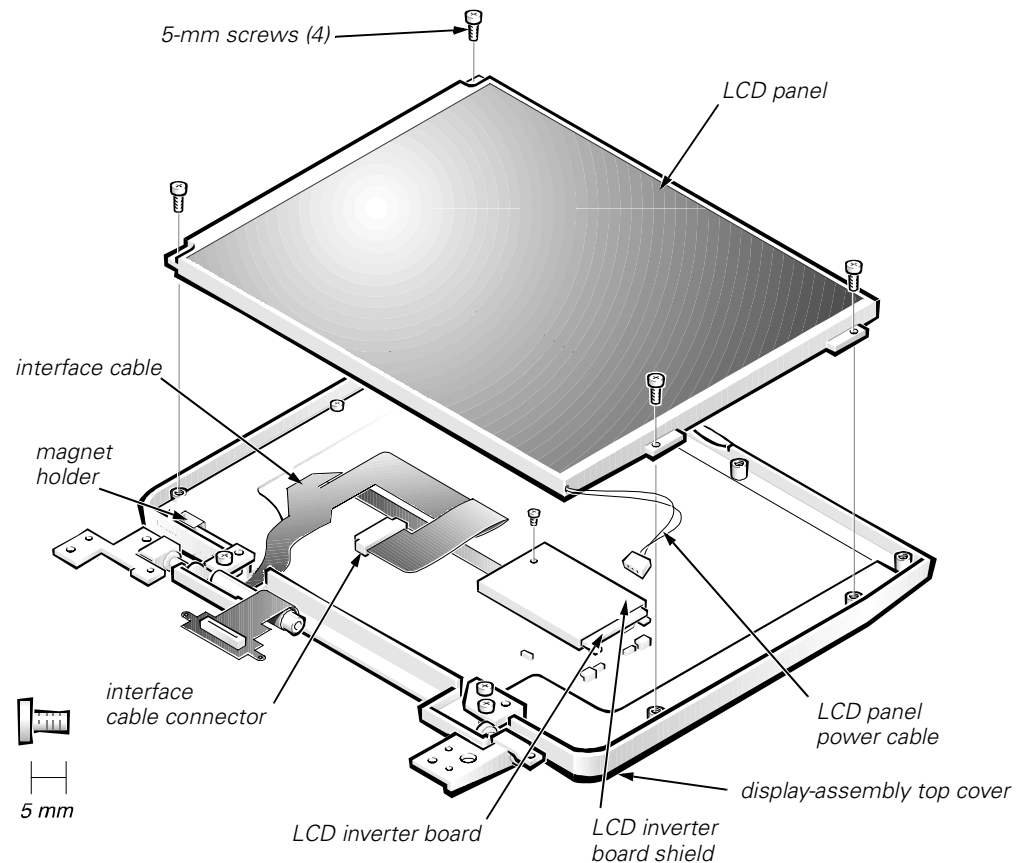
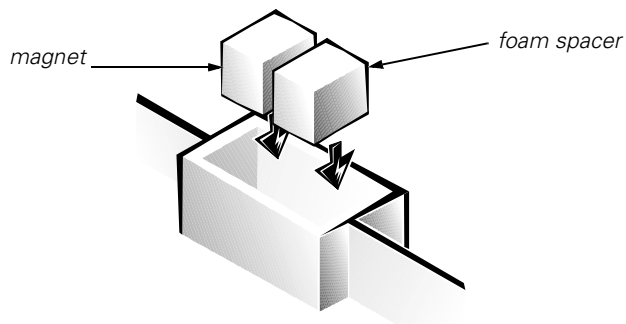

Figure 19. LCD Panel Removal (13.3-Inch Display)
Figure 20. Magnet Holder
- a. Remove the magnet from the magnet holder (see Figures 19 and 20), and place it against the replacement LCD panel frame.
- c. If the magnet does not stick, the LCD panel has a nonmagnetic frame. Place a single, small magnet and a foam spacer in the magnet holder, as shown in Figure 20. Place the magnet to the left of the foam spacer, assuming you are facing the display as shown in Figure 19.
Place a single, small magnet and a foam spacer in the magnet holder, as shown in Figure 20. Place the magnet to the left of the foam spacer, assuming you are facing the display as shown in Figure 19.